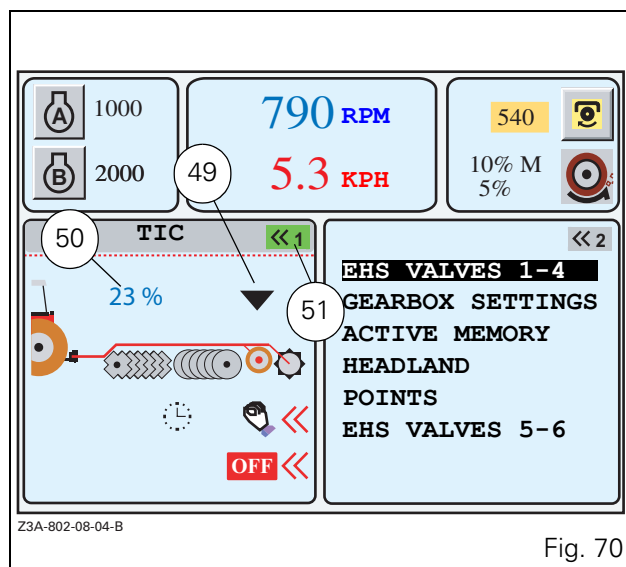

Fig. 70
- Validate by pressing the encoder or the key «₁. The window (Fig. 70) is displayed.
Description (Fig. 70):
- Pressing the key «₆ switches the TIC to ON or OFF when the window is active (green icon 51 Fig. 70).